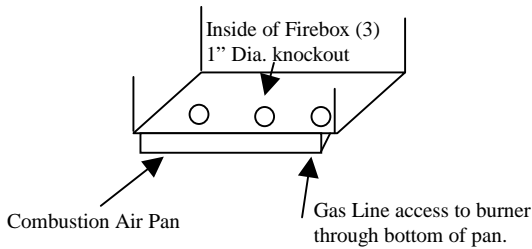

Fig. 2
There are (3) 1" diameter holes that will have to be drilled. The hole on the far right of the unit also has to be drilled all the way through the inner firebox and through the combustion air pan. This will give you access to the bottom of the unit where the gas line and wiring will be routed. See Fig. 2.